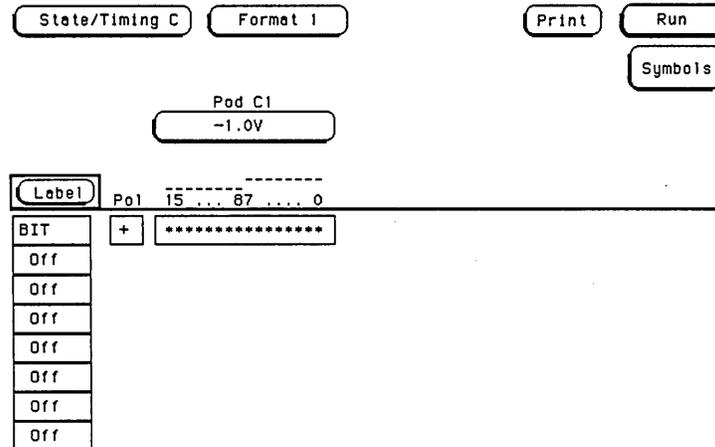

Figure 3-48. Format Screen
3. Configure the **Format** screen for **User defined pod threshold of -1.0 V** for the pod under test and assign all the bits of the pod to a label as in figure 3-48.